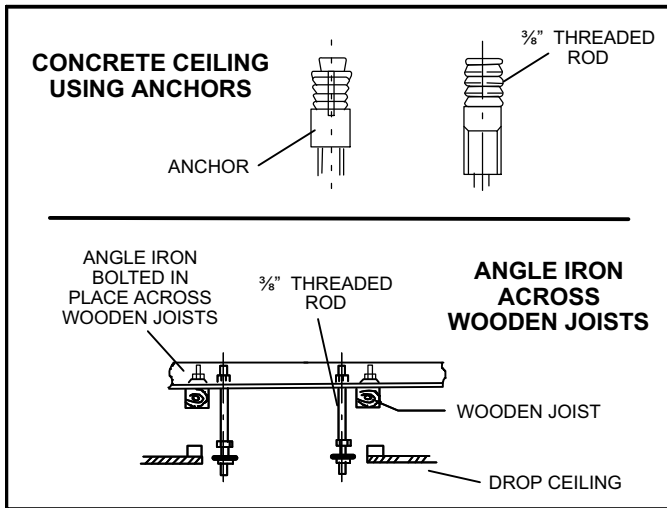

Figure 2. Suspending Methods
ceiling is constructed of concrete, install anchors to accept four $\frac{3}{8}$ " threaded rods to suspend the cassette base. If the structural ceiling includes wooden joists, use angle iron or a Unistrut channel fixed securely in place to accept the $\frac{3}{8}$ " threaded rods. See figure 2.
- 5 - Slide one nut and one washer onto each threaded rod. Use electrical tape to keep the washer from falling off. Position the nuts slightly above the final resting place of the four suspension brackets. See figure 2.